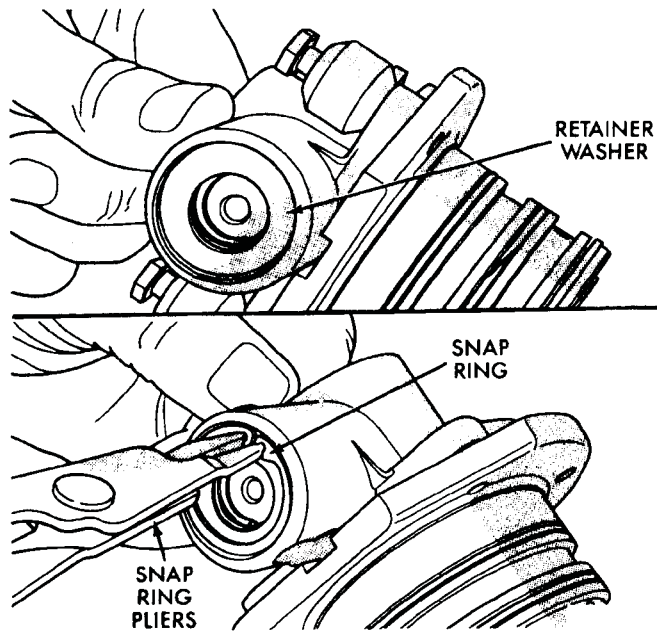

Fig. 67 Governor Weight Retainer Washer And Snap Ring Installation
(5) Install retainer washer and snap ring that secure governor weight assembly in governor body (Fig. 67).
(6) Verify that governor valve shaft bores in governor body and output shaft are aligned.
(7) Install governor valve in body bore. Large diameter end of valve faces outward. Then install governor valve shaft and secure it with E-clips.